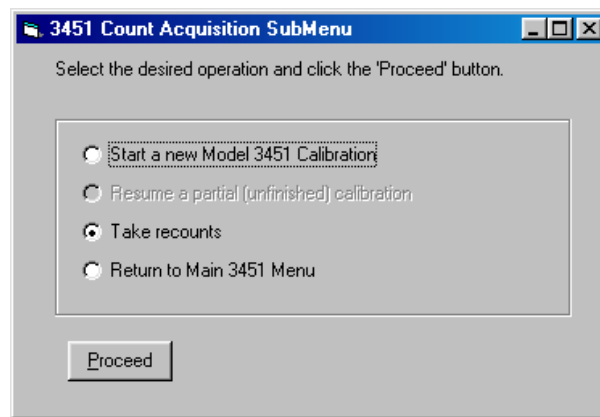

Figure 4–20. Count Acquisition Submenu, Take Recounts Option Selected
10. The **3451 Count Acquisition SubMenu** (SubMenu 1) is displayed, as shown in Figure 4–20. The options that are available in the submenu depend upon the tasks that have been most recently undertaken. As shown in Figure 4–20, select the third option, **Take recounts**, and click the **<Proceed>** button.
12. Once **<Yes>** is clicked on the preceding message box, the **Recount Selection Form** (see Figure 4–21) is displayed. The form contains an option button for each recount that can be made with this particular calibration. To take a recount, click the option button beside the recount desired, then click the **<Proceed>** button. If you do not wish to take a recounts, then click the default option button, **No Recounts Required**, and then click the **<Proceed>** button.
13. The **Prepare gauge for count** prompt, shown in Figure 4–12 on page 4–8, is displayed. The text of the prompt will reflect the recount that was selected.